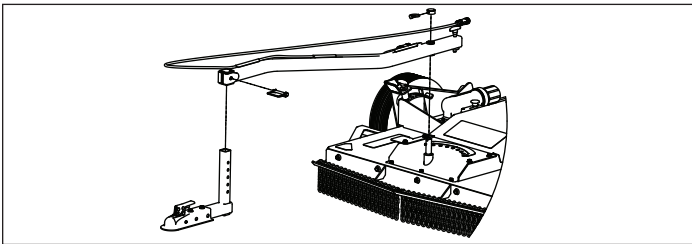

Figure 6
7. Assemble and install hitch and tongue onto machine. Use the tongue locking pin to secure the tongue into the center or straight position. See Figure 6